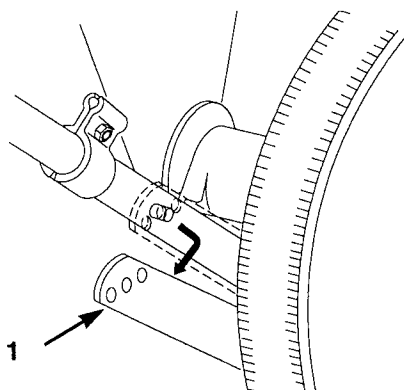

Figure 23
- B.** Disengage the handle adjustment lever from the stud on the handle, then rotate the lever down (Fig. 23).